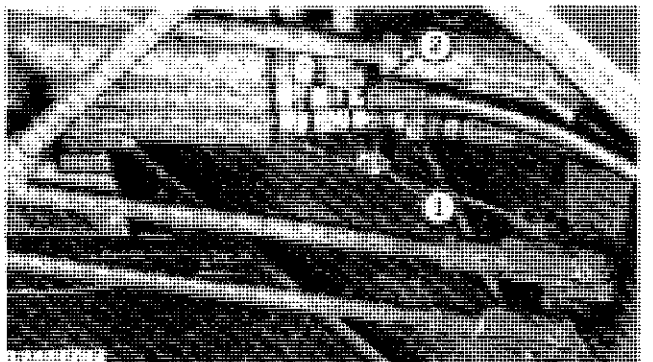

Fig. 18—Changing Valve Connections
1. Remove cap from right-hand outlet (Fig. 18) of main control valve.